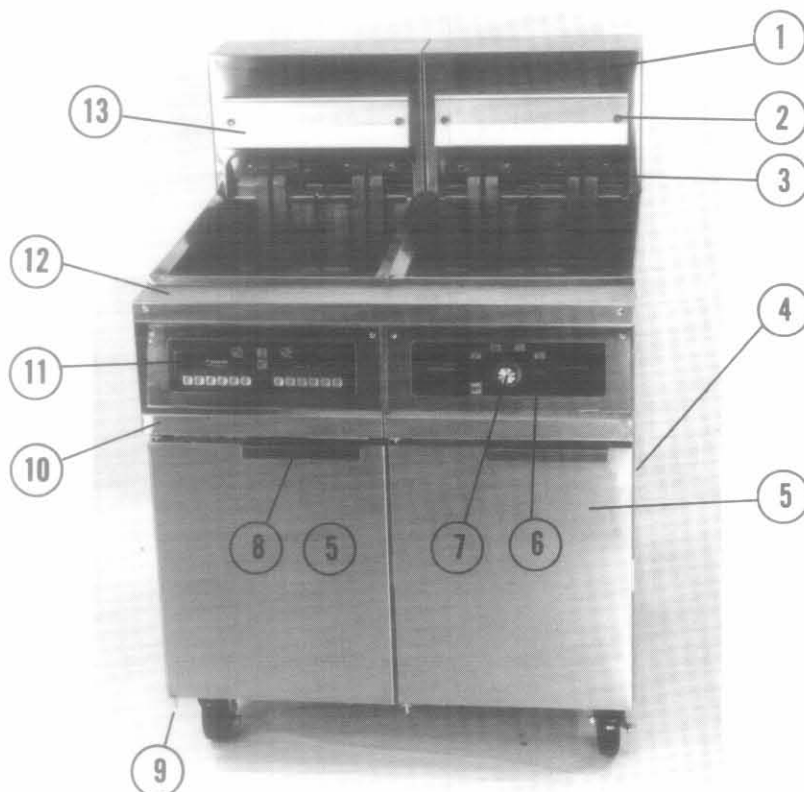

Figure 7
16. PARTS LIST — Electric Fryer H14, H17, & H22 (Refer to Figure 7)
*	900-0889	Side Hole Cover, CRS (3)	ALL
*	900-0890	Side Hole Cover, CRS (1)	ALL
*	910-0889	Side Hole Cover, SS (3)	ALL
*	910-0890	Side Hole Cover, SS (1)	ALL
*	809-0359	Screw (16)	ALL
16. PARTS LIST (CONT'D) - Frypot and Associated Components (Refer to Figures 7 & 8)